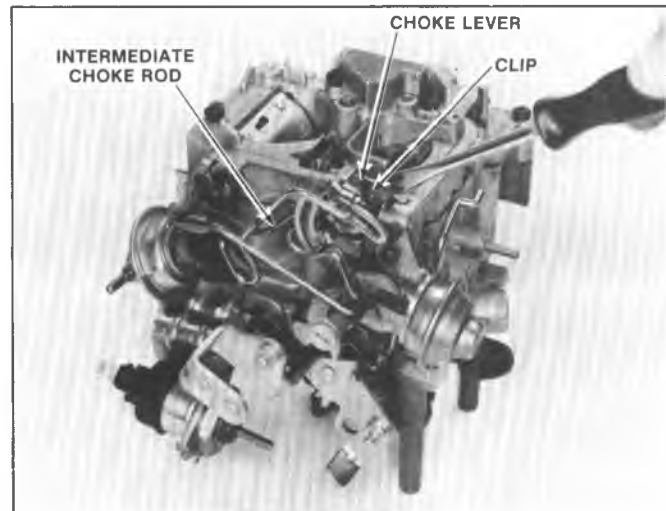

Fig. 6C2-21--Choke Rod and Choke Lever
8. If equipped, remove (2) small screws that retain the hot idle compensator valve (Fig. 6C2-22). Remove valve and seal from air horn. Discard seal. Hot idle compensator valve must be removed to gain access to short air horn to bowl attaching screw.
9. Remove the (7) air horn to bowl attaching screws and lockwashers (Fig. 6C2-23). Remove vent and screen assembly.